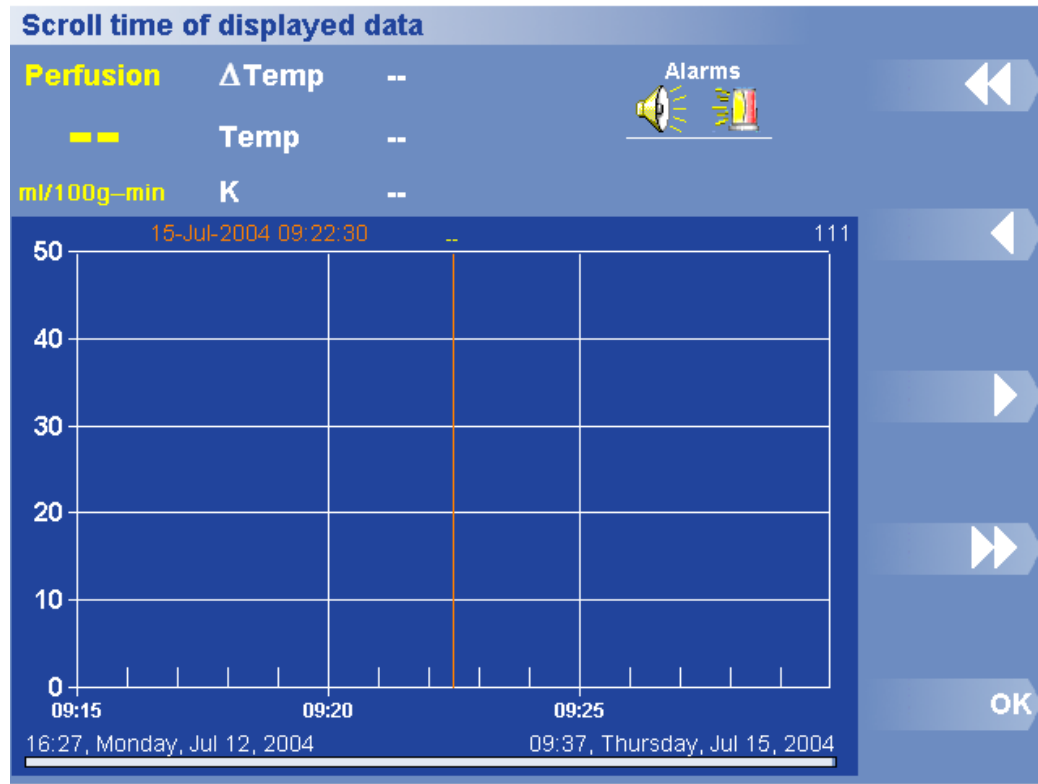

Figure 34. Scroll Time
1. Press Options > View Data > Scroll Time. The Scroll Time screen appears (Figure 34).